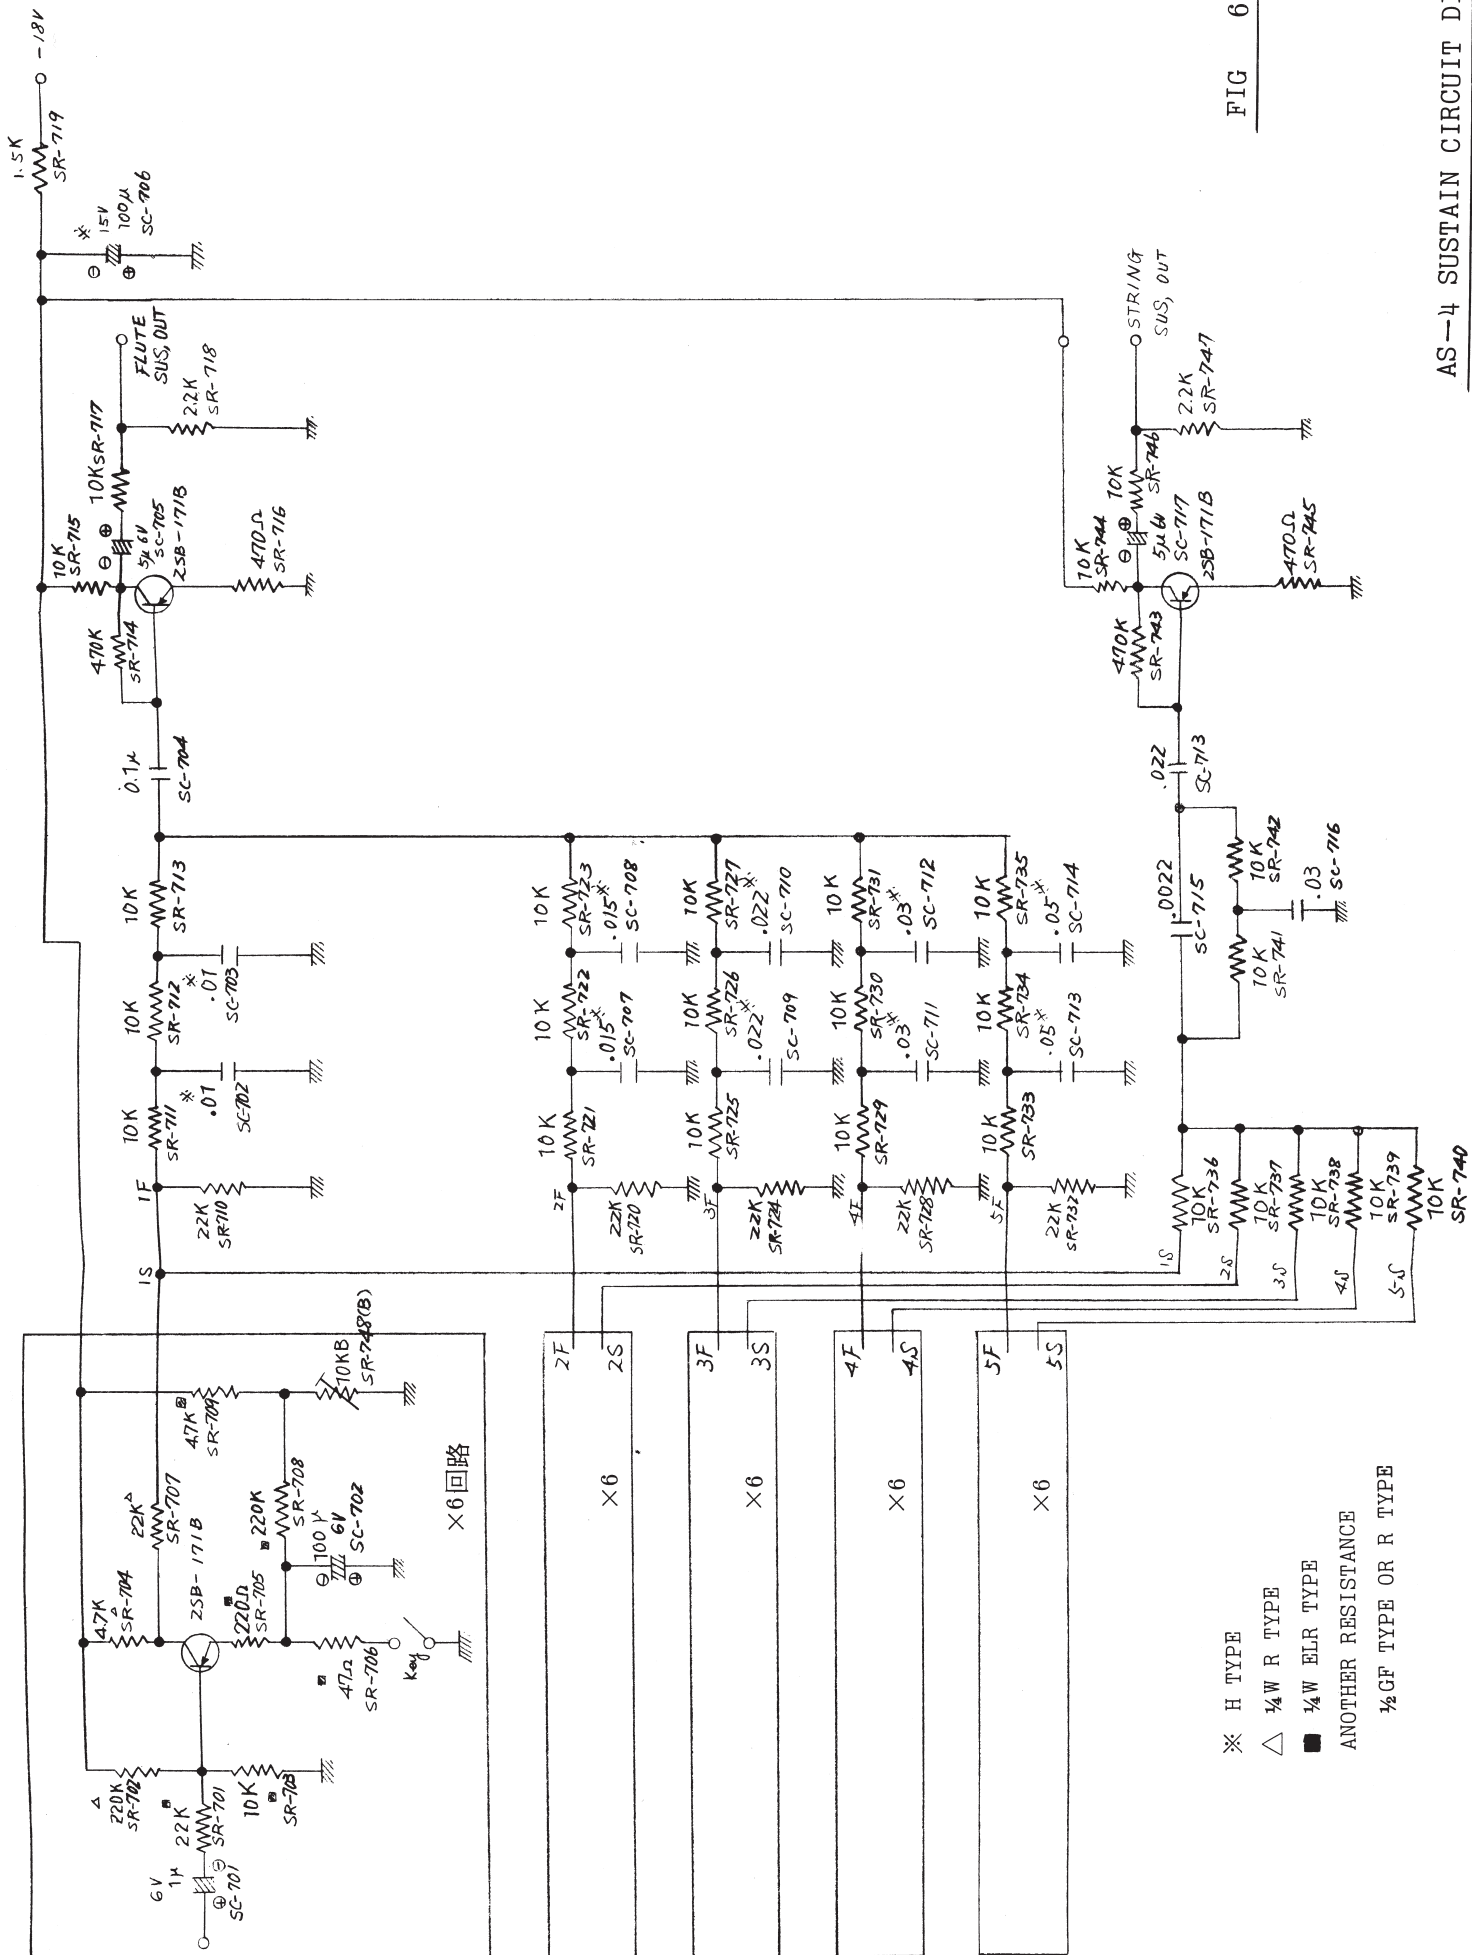

FIG 6
Sustain effect can be adjusted by semi-fixed resistor (SR-748 (B)) shown in Fig. 6 and Fig 7, to achieve proper effect.